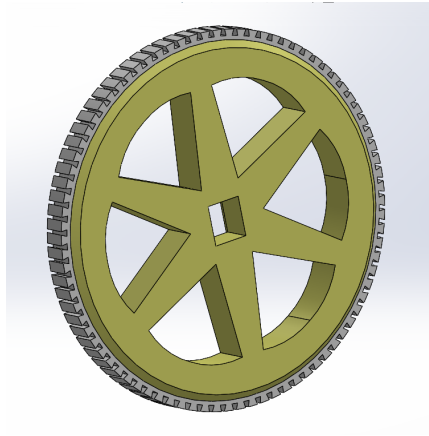

FIGURE 15
STEP 12: Now we move onto the wheels in which we cover with their protective grip rings, the large wheels are numbered 5 and their grip covers are numbered 27 as seen in figure 15.